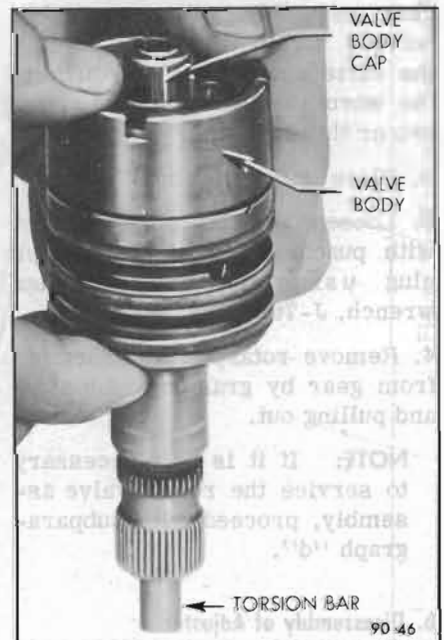

Figure 90-41—Removing Stub Shaft, Torsion Bar and Cap Assembly from Valve Body
4. Remove the stub shaft, torsion bar and cap assembly by holding the valve assembly with stub shaft downward as shown and rapping torsion bar lightly against workbench to dislodge the cap from the valve body to cap pin. See Figure 90-41. Complete the removal of the stub shaft torsion bar and cap assembly.